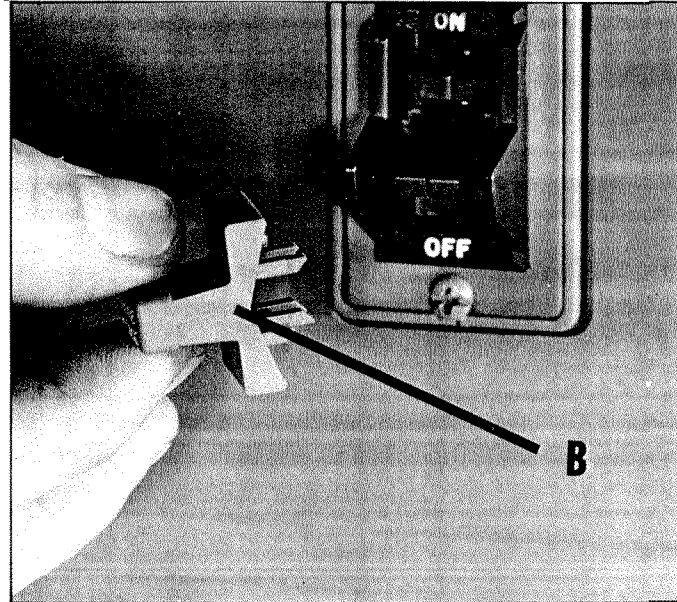

Fig. 17
WE SUGGEST THAT WHEN THE SAW IS NOT IN USE, THE SWITCH BE LOCKED IN THE "OFF" POSITION. This can be done by grasping the switch toggle (B) Fig. 17, and pulling it out of the switch. With the switch toggle (B) removed, the switch will not operate. However, should the switch toggle be removed while the saw is running, the saw can be turned OFF once, but cannot be restarted without inserting the switch toggle in the switch.